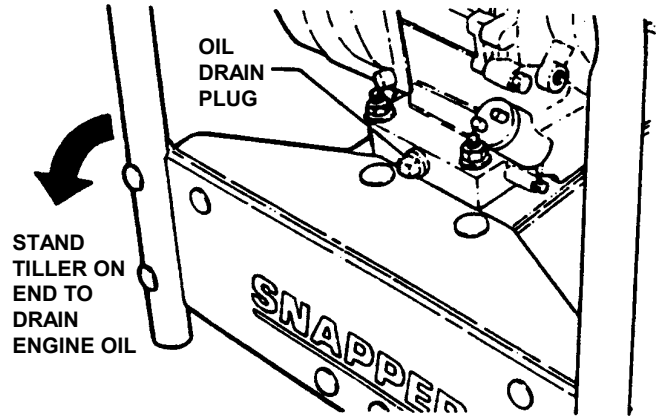

FIGURE 8
3.2.1. ENGINE SERVICE: Refer to the engine owner's manual for details. Engine oil is drained by removing front filler plug and standing Tiller on end. See Figure 8.